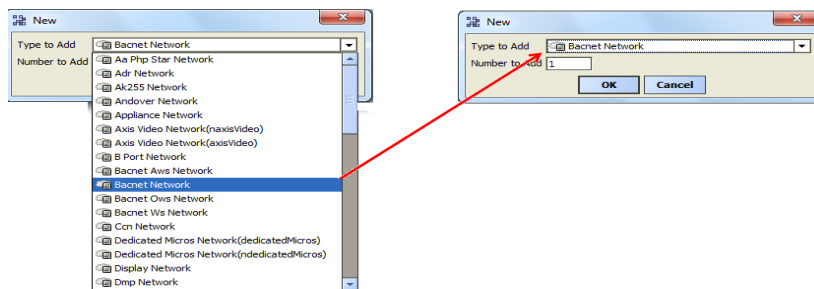

Figure 21: Selecting BACnet Network to add
- A window will pop out as shown in Figure 21, asking 'Type to Add'.